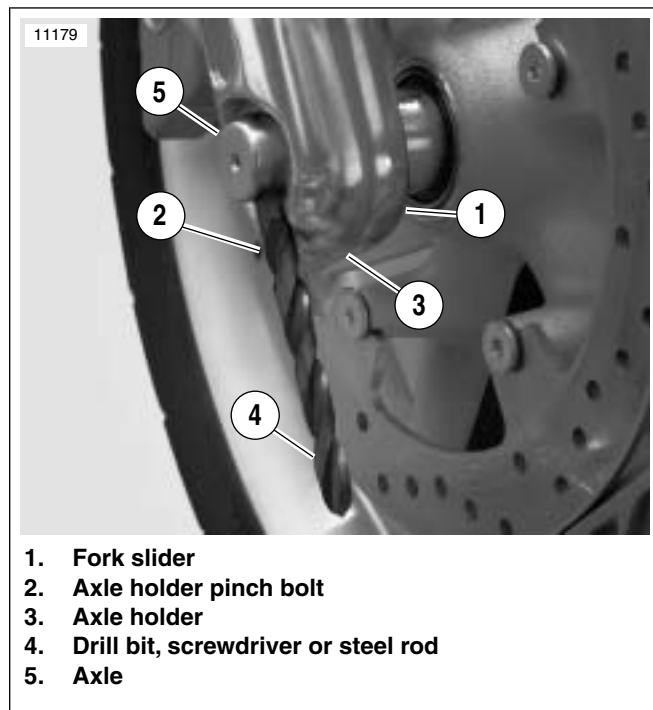

Figure 2-80. Aligning Fork to Wheel (VRSCR)
2. See Figure 2-80. Place wheel and spacers into front fork and install axle (5). Verify that axle spacers on right and left side are properly installed.
4. Pull fork leg so that it just contacts the inner wheel spacer and then tighten axle holder pinch bolt (2) to 55-65 Nm (41-48 ft-lbs). Ensure that gap between the axle holder (3) and the fork slider (1) is equal at front and rear of axle holder.